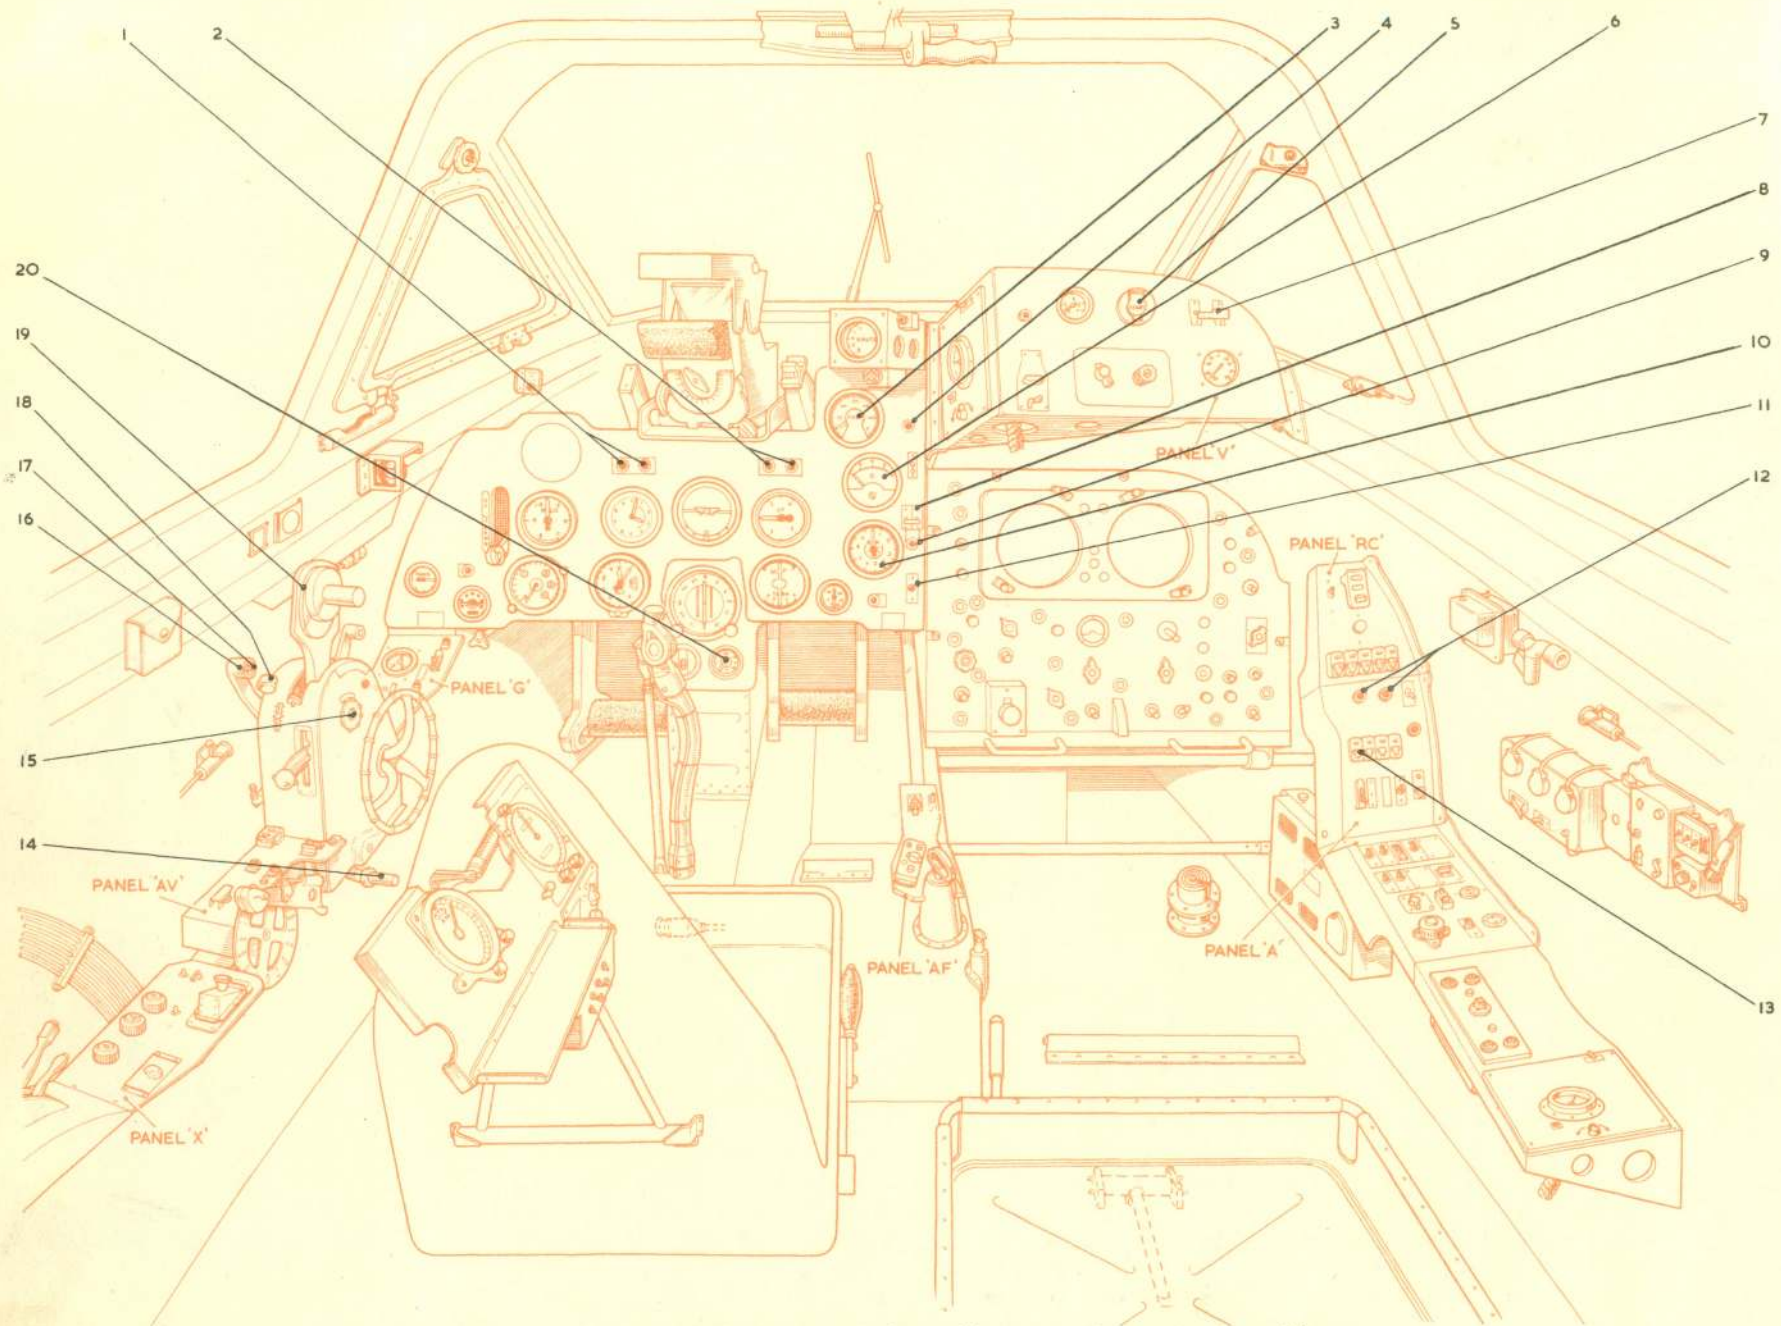

Fig.2 Engine controls and instruments (early aircraft)
**7.** For starting the engine, a master switch and a Teddington selector switch starter button are fitted (*fig. 2*). When the starter button is depressed, a starter cartridge is automatically selected and fired, the button being held in for about 29 seconds by a time delay switch in the ignition system. During this time a normal start should be effected.
## Key to Fig. 2 (Engine Controls and Instruments—Early Aircraft)